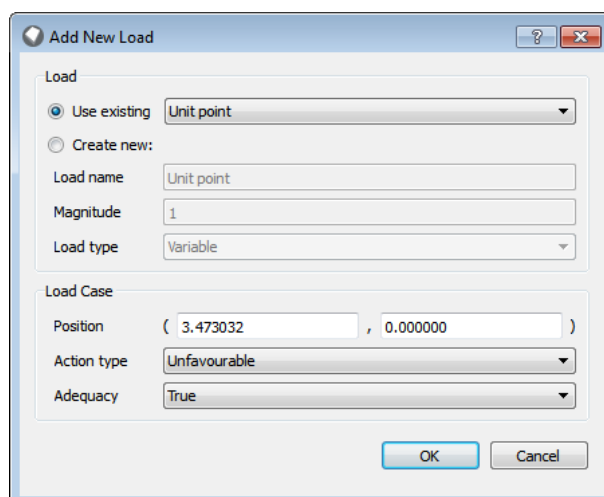

Figure 17.1: The **Add New Load** dialog for Point loading
- The **Add New Load** dialog will appear (see Figure 17.1). Here you can change the magnitude and fine-tune the location of the load.